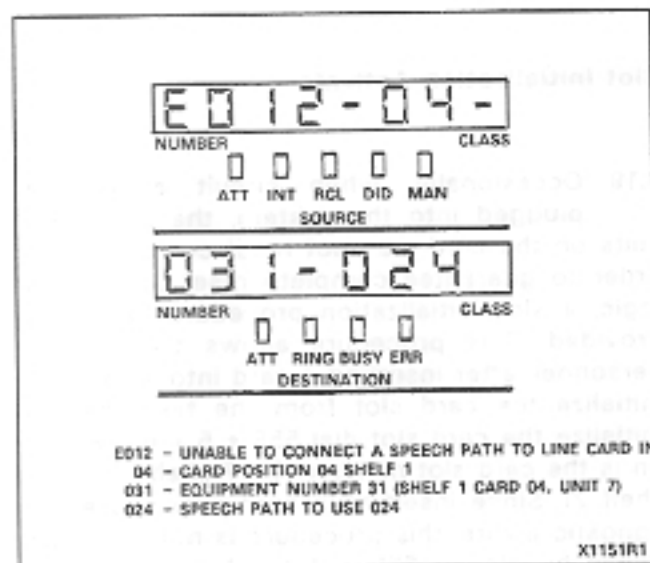

Fig. 3-2 Typical Readout
3.04 A typical alarm readout in the SOURCE display is shown in Fig. 3-2. In addition, if the ALARM RESET button is pressed, the Busy Lamp Field changes to display lines and trunks which are locked out or have been busied out. This display remains for as long as the ALARM RESET button is held down.
3.06 Table 4-4 is a list of error codes displayed on the console, indicating the card causing the malfunction and the type of malfunction. Fig. 3-2 shows a typical error display and its interpretation.